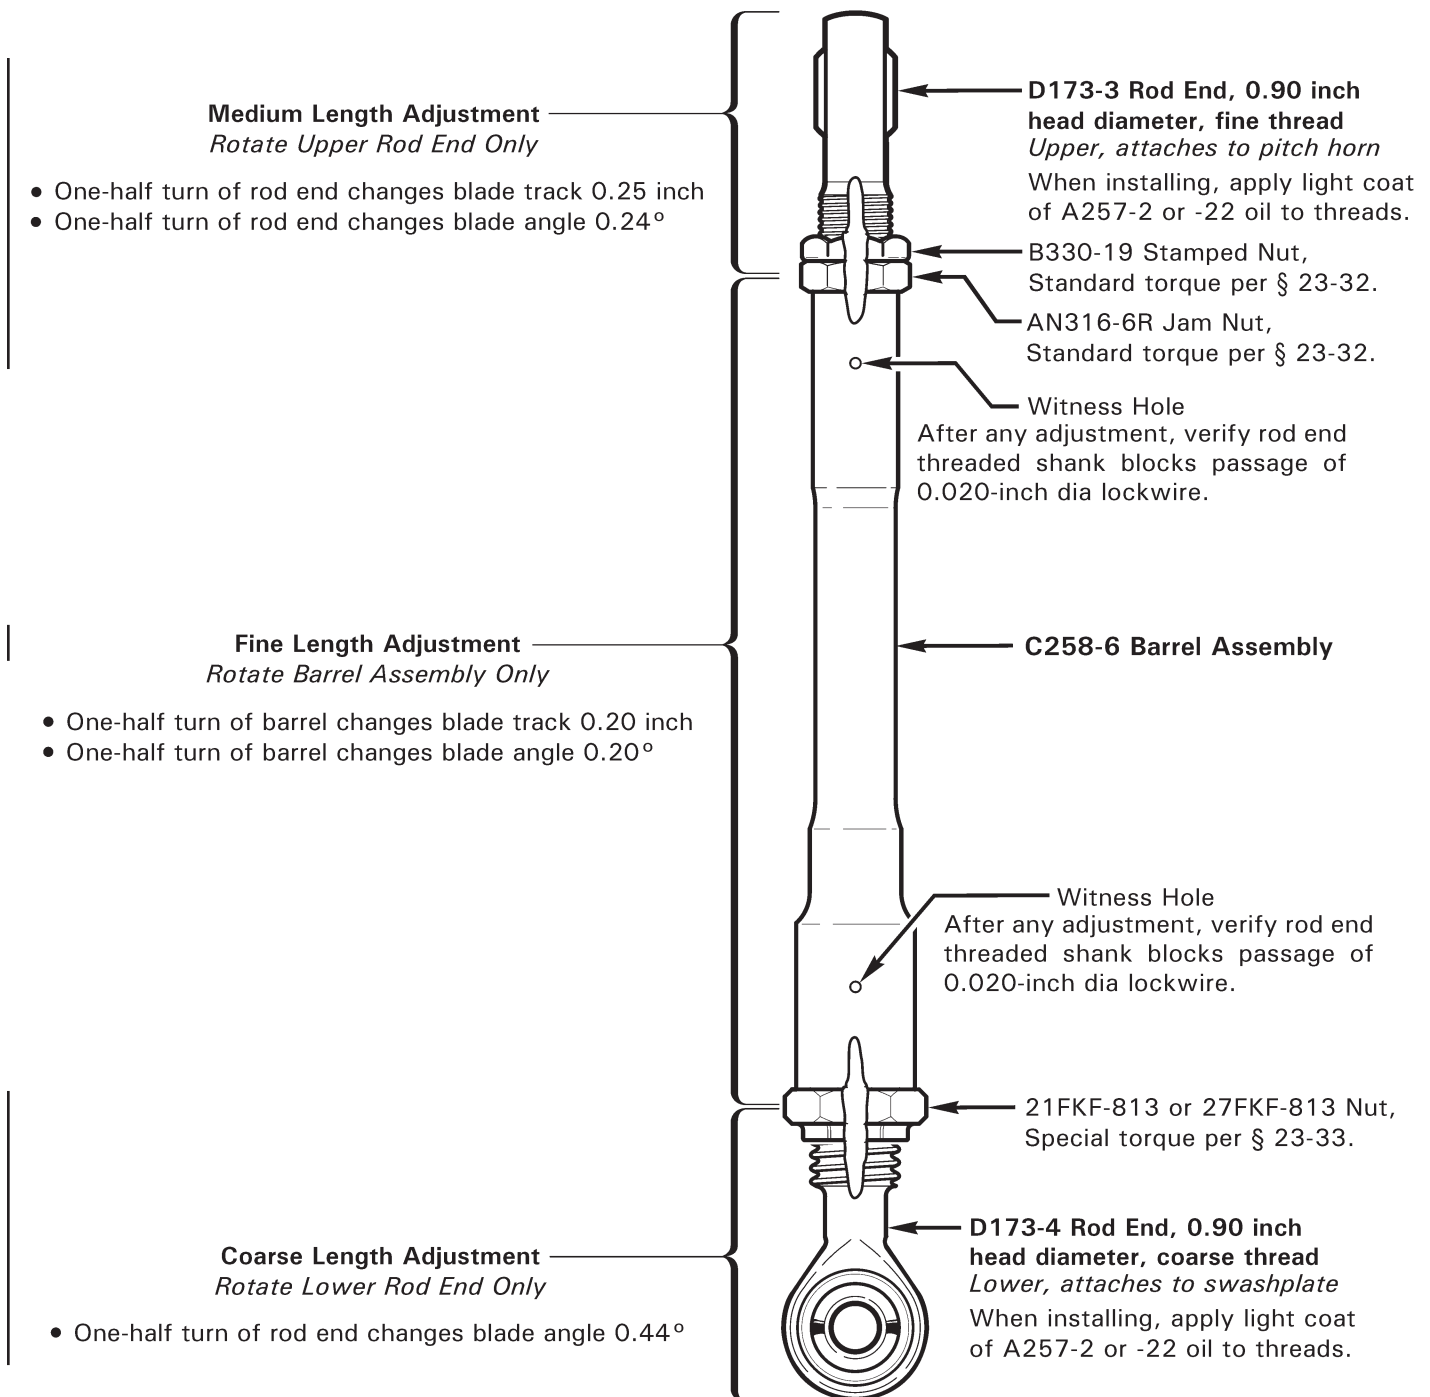

FIGURE 10-12B C258-5 MAIN ROTOR PITCH LINK
1. Refer to Figure 10-12B. Using backup wrench on barrel assembly, loosen 21FKF-813 or 27FKF-813 nut at lower rod end, and stamped nut and jam nut at upper rod end.
3. Refer to Figures 2-1 & 2-1A. Position rod ends to allow as much pitch link rotation as possible without binding. Using backup wrench on barrel assembly, special torque 21FKF-813 or 27FKF-813 nut per § 23-33, and standard torque jam nut and stamped nut at upper rod end per § 23-32. Verify rod ends' threaded shanks block passage of 0.020-inch diameter lockwire through barrel assembly witness holes. Torque stripe link per Figure 10-12B.
1. Refer to Figure 10-12B. Using backup wrench on barrel assembly, loosen stamped nut and jam nut at upper rod end. Remove hardware securing rod end to pitch horn.
4. Refer to Figures 2-1 & 2-1A. Position upper rod end to allow as much pitch link rotation as possible without binding. Using backup wrench on barrel assembly, standard torque jam nut and stamped nut at upper rod end per § 23-32. Verify upper rod end threaded shank blocks passage of 0.020-inch diameter lockwire through barrel assembly upper witness hole. Torque stripe link per Figure 10-12B.
1. Refer to Figure 10-12B. Using backup wrench on barrel assembly, loosen 21FKF-813 or 27FKF-813 nut at lower rod end. Remove hardware securing lower rod end to swashplate.
4. Refer to Figures 2-1 & 2-1A. Position lower rod end to allow as much pitch link rotation as possible without binding. Using backup wrench on barrel assembly, special torque 21FKF-813 or 27FKF-813 nut per § 23-33. Verify lower rod end threaded shank blocks passage of 0.020-inch diameter lockwire through barrel assembly lower witness hole. Torque stripe link per Figure 10-12B.